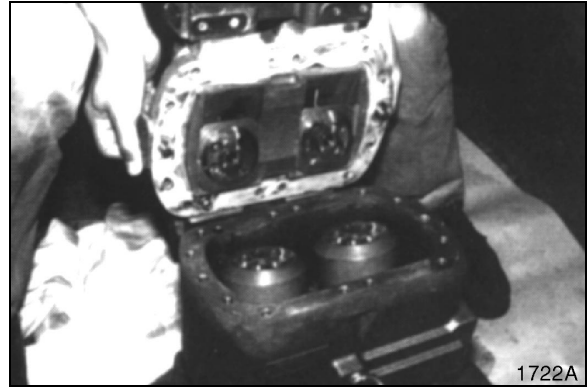

Figure 128
1. Install main control body. See Figure 128.